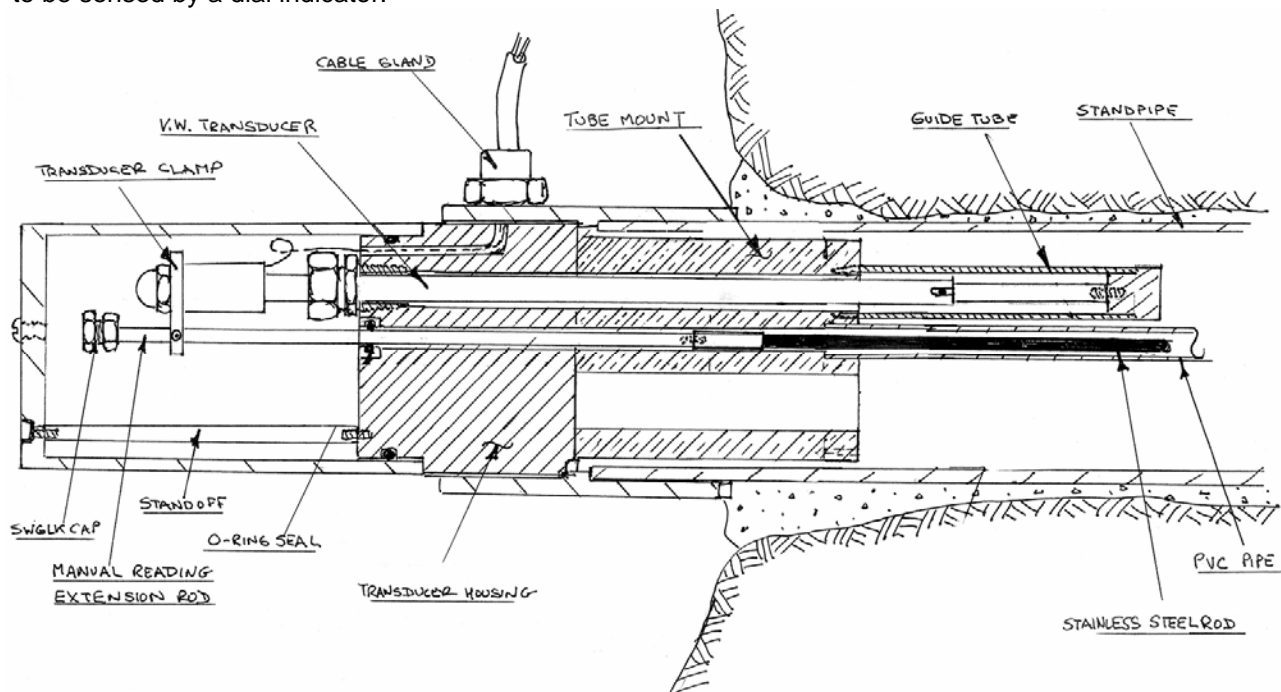

Figure 4 – Manual Readout Set-up
4.2.1 A typical MPBX head assembly, designed to accept vibrating wire displacement transducers and also permit manual readout is shown in figure 4. In this arrangement the transducers are not directly in line with the stainless rods but, instead, are recessed in guide tubes alongside the rods, leaving the tip of the rods free to be sensed by a dial indicator.